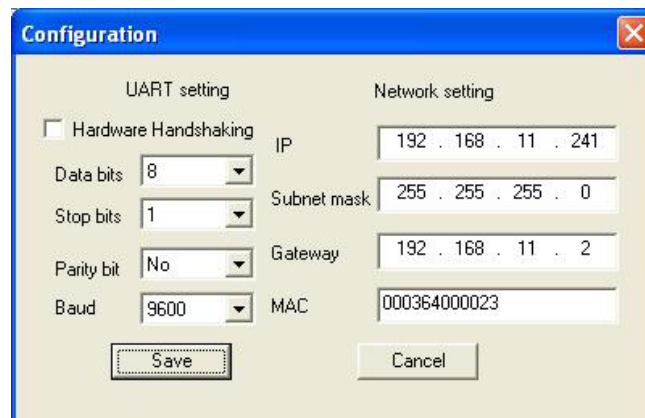

Figure 4-5 UART and Network properties
- 4). "Preference Button" is for setting UART and network. This button will be active after connection between PC and Ethernet IO is established. After press this button, configuration window will appear. In configuration window, user can set UART properties and network properties as shown in Figure 4-5.